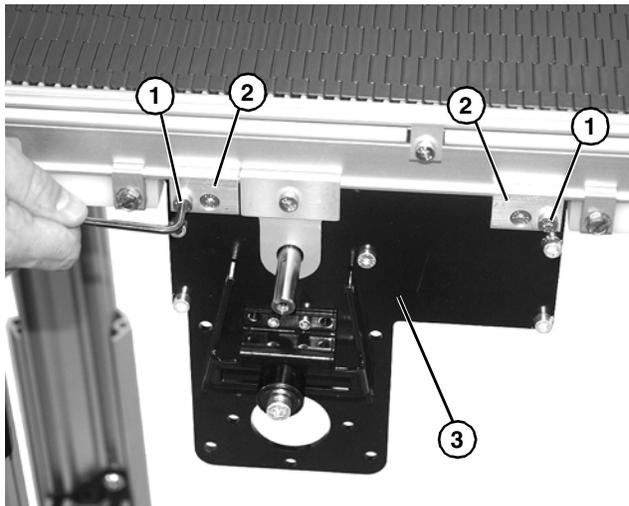

Figure 38
1. Loosen and remove two (2) fastening screws (**Figure 38, item 1**) and clips (**Figure 38, item 2**) on each side of conveyor to lower and remove center drive module (**Figure 38, item 3**).